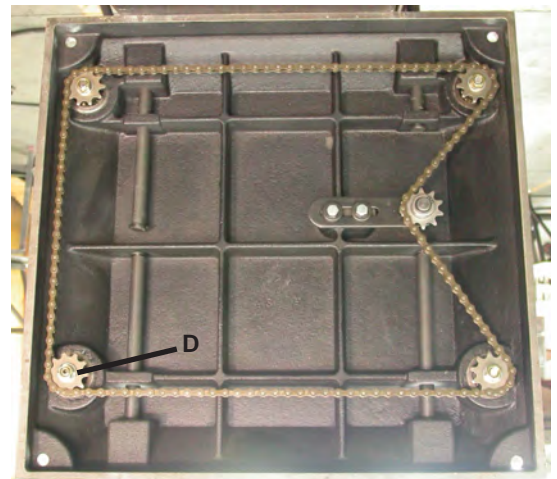

Fig 26
3. Remove bolt (A) and loosen bolt (B) Fig, 25, which will allow you to move the idler sprocket assembly (C) far enough to release tension on chain, as shown in Fig. 26.
4. Remove chain from sprocket on corner of base that must be adjusted. In Fig. 26 chain has been removed from sprocket (D).
5. Turn sprocket (D) Fig. 26 by hand to bring that corner into adjustment with other three corners.